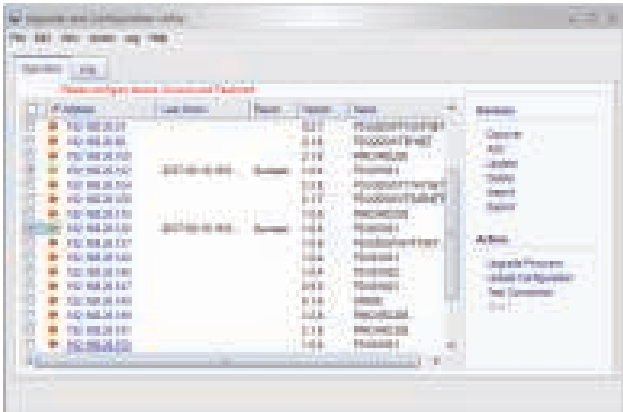

Figure 7
- 10. The result of firmware upgrade will show in **Result** column (Shown in Figure 7).